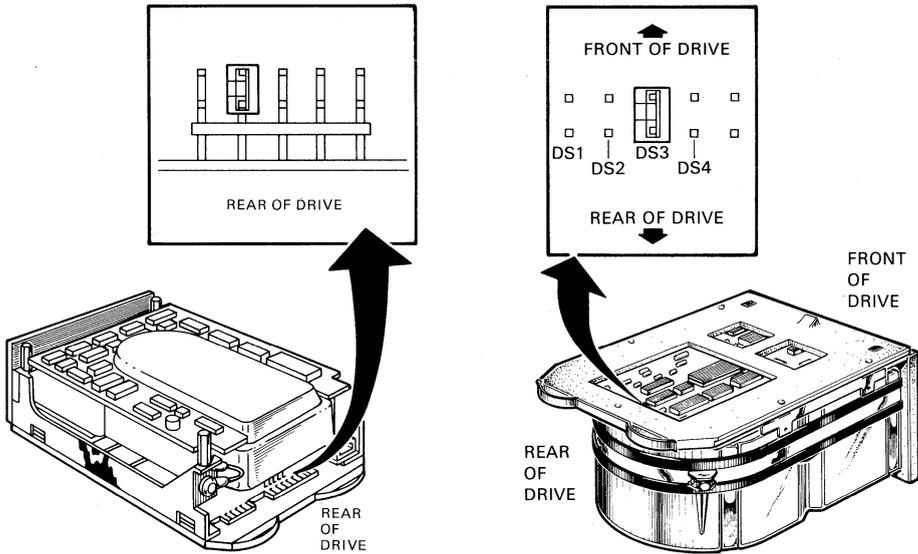

Figure 6-5 Set the RD52 Jumper Clip
7. To configure an RD52 drive as DU0, make sure the jumper clip is set at DS3 (Figure 6-5). To configure an internal RD52 drive as DU1, place the jumper clip on DS4.